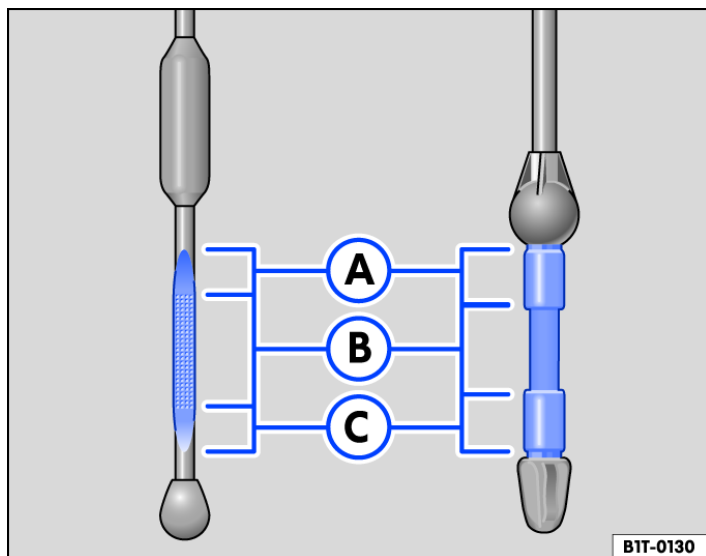

Fig. 1 Oil dipsticks with markings (variants).
Key to → Fig. 1:
4. Identify the engine oil filler cap and oil dipstick. The engine oil filler opening can be recognised by the symbol  on the cap and the oil dipstick has a coloured handle → Fig. 1. If you cannot find the cap and oil dipstick, please contact a qualified workshop.
7. Pull out the oil dipstick again and read the engine oil level on the dipstick as follows → *Fig. 1*:
- (A) Do not fill engine oil → ⚠. Continue with step 16.
- (B) Engine oil level OK. The engine oil may be filled up to the upper limit of this area, for instance, if the engine is subjected to high loads. Continue with step 8 or 16.
- (C) Engine oil level too low. It is essential to fill engine oil. Continue with step 8.